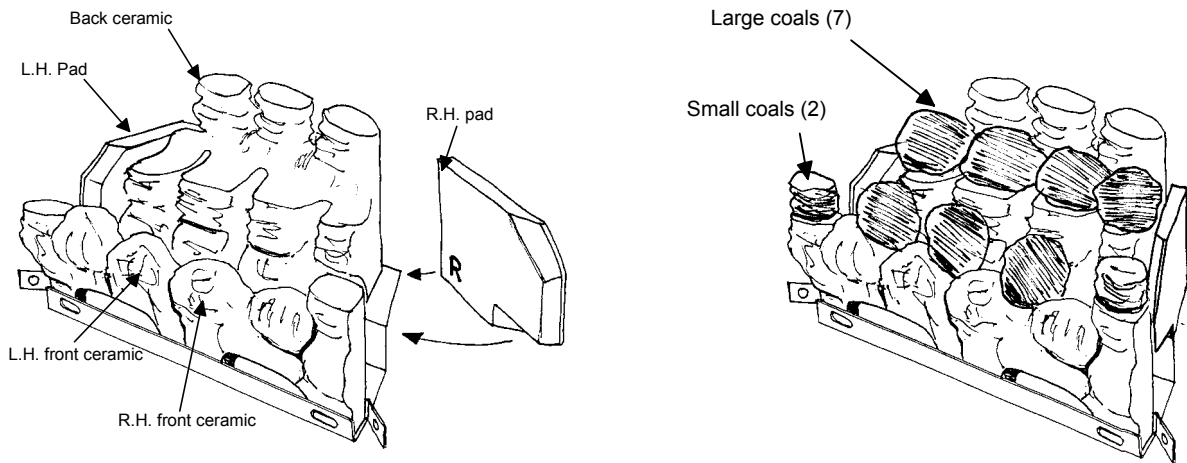

Fig. 9 Placing the ceramics & loose coals
6. The ceramic components are fragile and should be handled with care. Refer to Fig. 9 for positioning of ceramic fibre blocks and coals.
10. Remove the coals from the bag; note that 2 sizes are supplied. Place them on the ceramic blocks in accordance with Fig. 9.